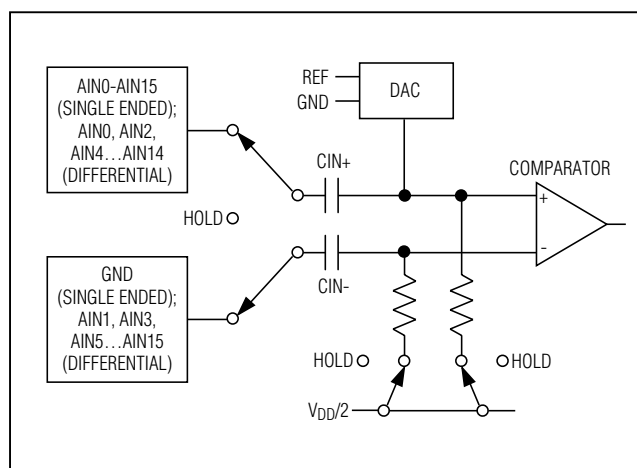

Figure 3. Equivalent Input Circuit
**Note 6:** See Figure 3 (Input Equivalent Circuit) and the *Sampling Error vs. Source Impedance* curve in the *Typical Operating Characteristics* section.
The MAX1027/MAX1029/MAX1031 use a fully differential ADC for all conversions. The analog inputs can be configured for either differential or single-ended conversions by writing to the setup register (see Table 3). Single-ended conversions are internally referenced to GND (Figure 3).
The equivalent circuit of Figure 3 shows the MAX1027/MAX1029/MAX1031's input architecture. In track mode, a positive input capacitor is connected to AIN0-AIN15 in single-ended mode (and AIN0, AIN2, AIN4...AIN14 in differential mode). A negative input capacitor is connected to GND in single-ended mode (or AIN1, AIN3, AIN5...AIN15 in differential mode). For external track-and-hold timing, use clock mode 01. After the T/H enters hold mode, the difference between the sampled positive and negative input voltages is converted. The time required for the T/H to acquire an input signal is determined by how quickly its input capacitance is charged. If the input signal's source impedance is high, the required acquisition time lengthens. The acquisition time,  $t_{ACQ}$ , is the maximum time needed for a signal to be acquired, plus the power-up time. It is calculated by the following equation: